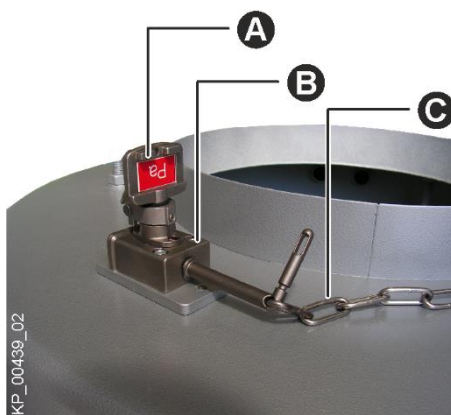

Fig. 31: Access lock
- Weld the chain (Fig. 31/C) to the proportioning system above it.
- Put the bolt in the access lock (Fig. 31/B) and remove the key (Fig. 31/A) after locking.